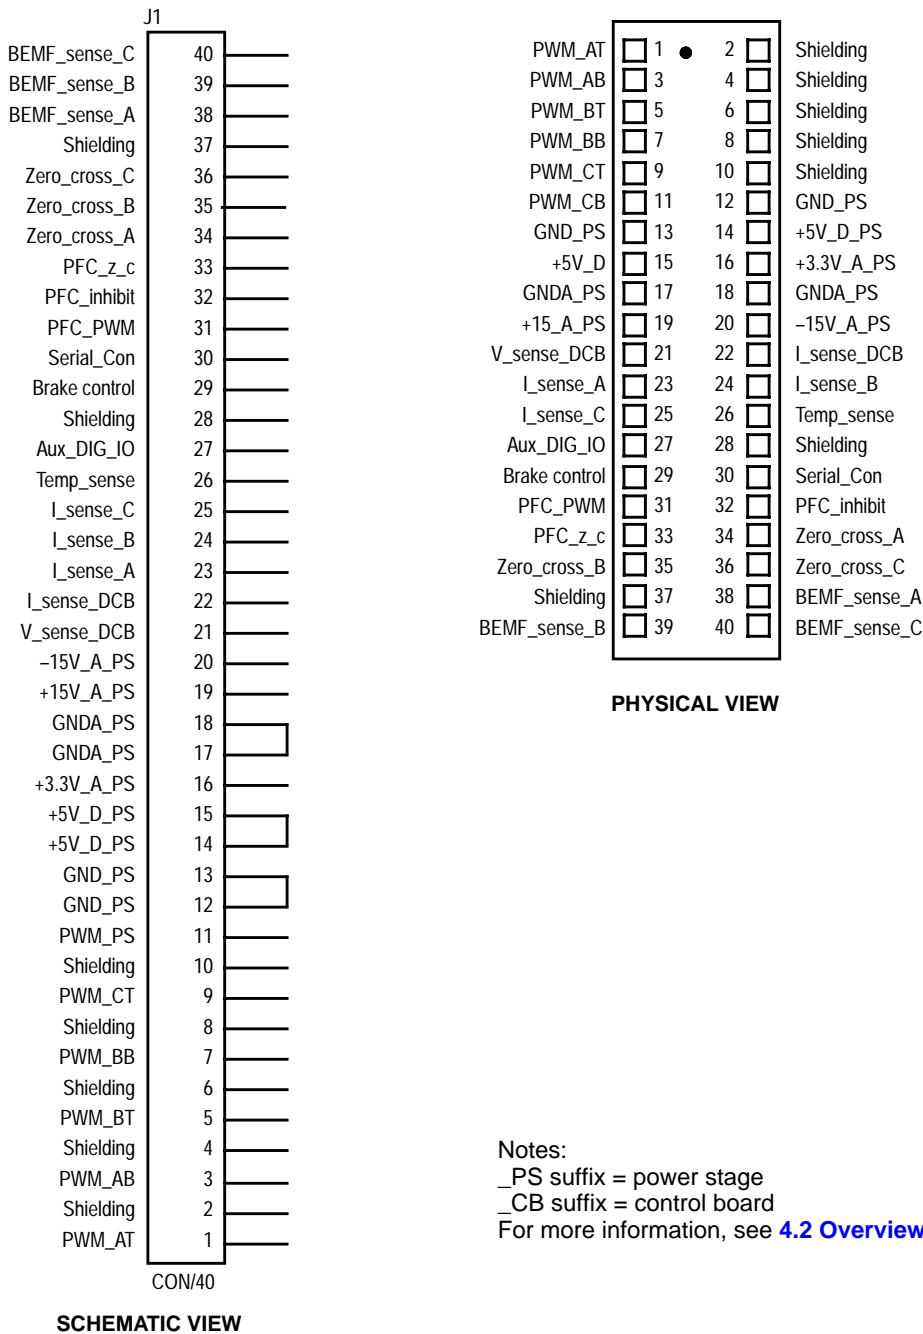
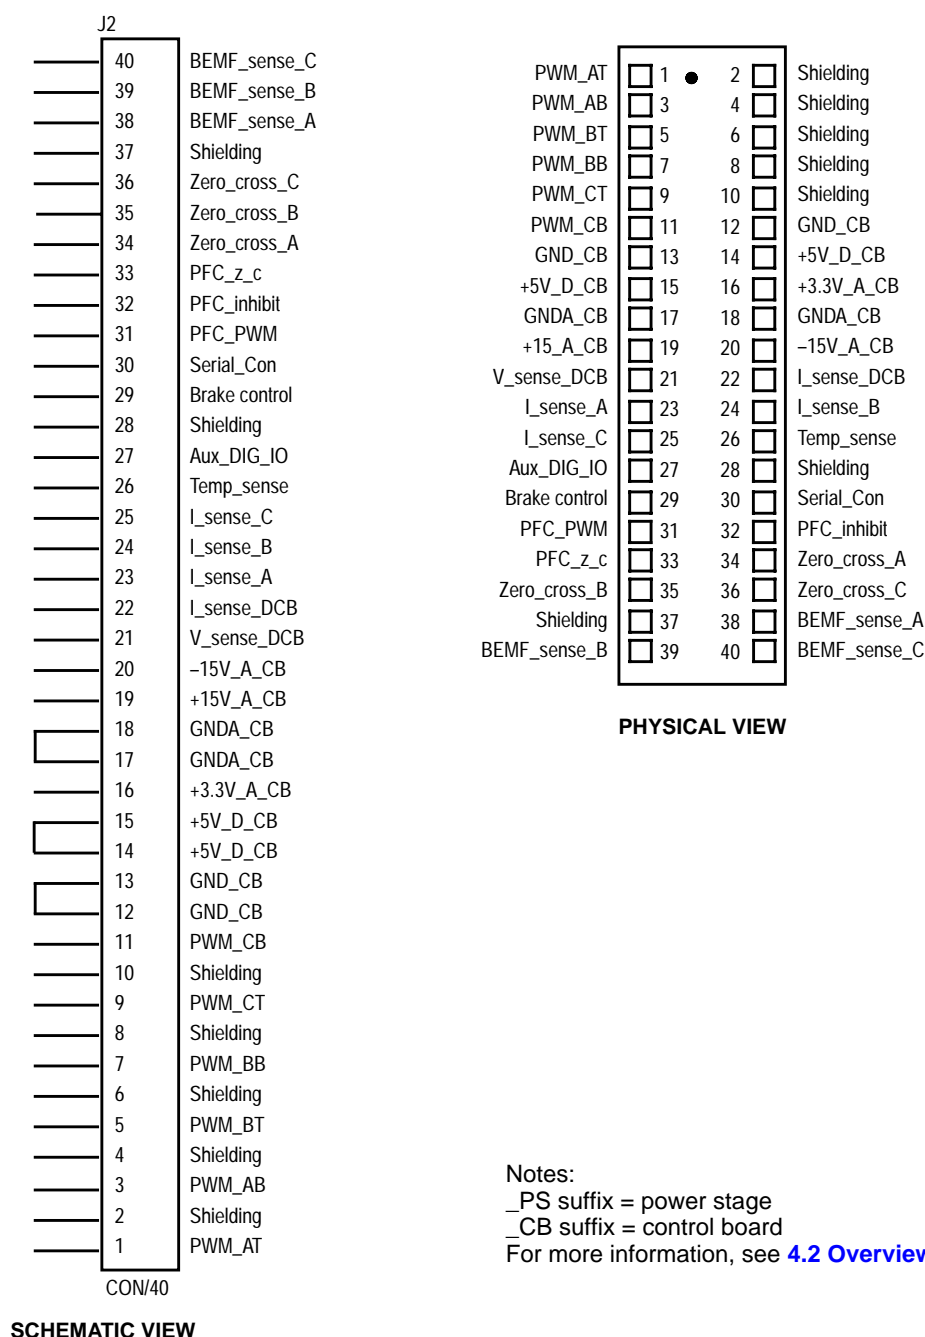

Figure 3-1. 40-Pin Output Connector
Figure 3-2. 40-Pin Input Connector
- Pin assignments are shown in Figure 3-1. 40-Pin Output Connector and Figure 3-2. 40-Pin Input Connector, and a pin-by-pin description is contained in 3.3 Signal Descriptions.
Pin assignments for the input and output connectors are shown in Figure 3-1 and Figure 3-2. In these figures, a schematic representation appears on the left, and a physical layout of the connector appears on the right. The physical view assumes that the board is oriented such that its title is read from left to right. Signal descriptions are provided in Table 3-1. Note that each signal has the same pin assignment on both connectors. Power supply and ground connections go to different power supplies, due to the isolation barrier. However, pin locations for similar power supply voltages remain the same. For example, +15 volts on the input connector and +15 volts on the output connector come from physically different power supplies, but occupy pin 19 on both connectors.